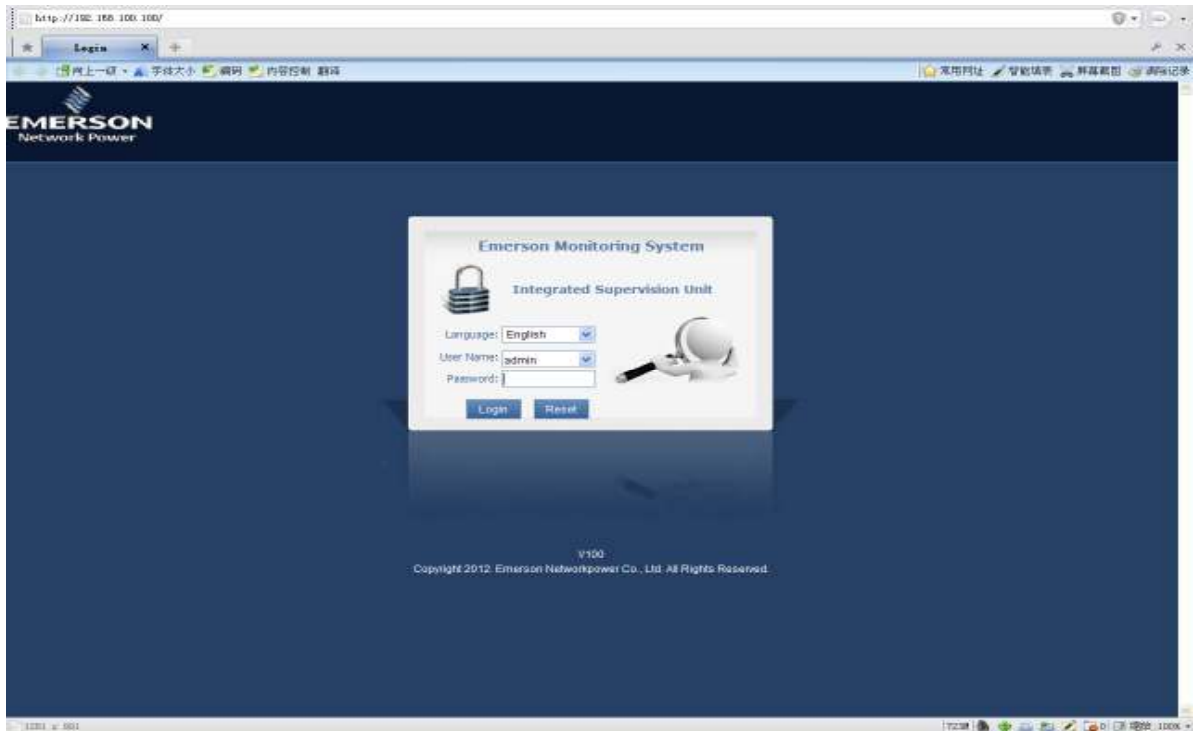

Figure 4-1 Login interface
1. Input IP address of the monitoring equipment in IE address bar and press the Enter key to enter the login interface shown in Figure 4-1. Select the interface display language (Chinese and English, optional) in **Language**. Type the user name (default: 'admin') and password (default: '123456') and click the **Login** button to enter the **System Setup** interface.